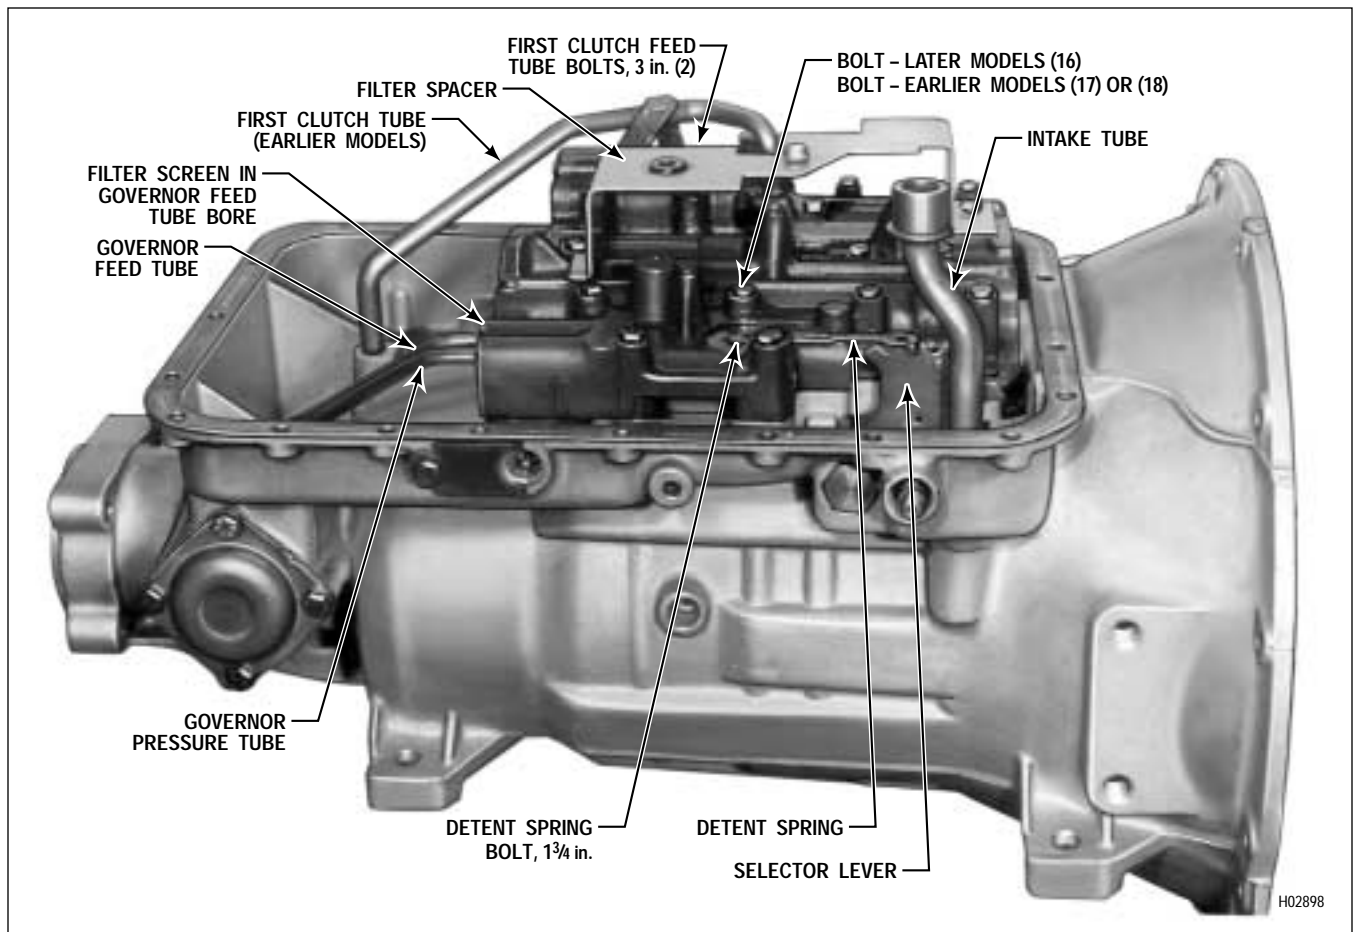
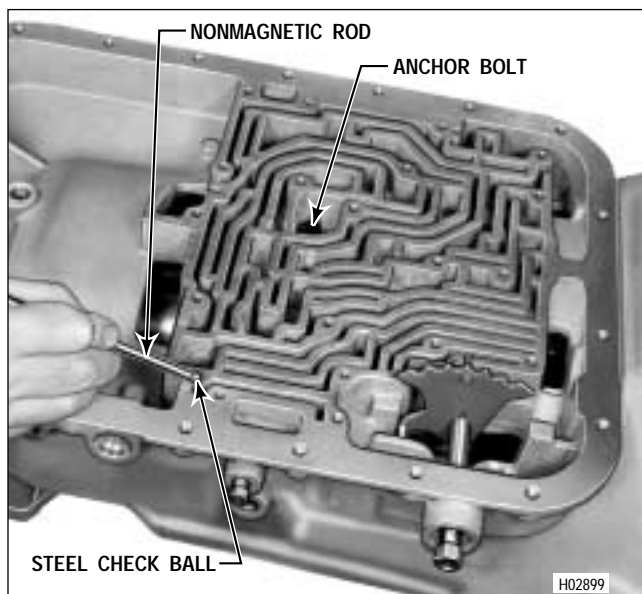

Figure 5-7. Removing Main Control Valve Body
Figure 5-8. Removing Governor Check Ball (Earlier Models)
(2) Remove the intake tube and sealring (Figure 5-7).
(1) Remove the bolt that retains the detent spring (Figure 5-7). Remove the spring.
(2) On later models, remove the two 3 inch bolts (Figure 5-7) that retain the first (reverse) clutch feed tube. Remove the tube.
(3) Remove the sixteen (seventeen or eighteen, earlier models) 1/4-20 bolts that retain the main control valve body and filter spacer (if present).
main control valve body (Figure 5-7) by lifting upward on the body and the attached feed tubes.
(5) Remove the two feed tubes (three, earlier models). Remove the governor circuit screen, located in the governor feed tube bore (Figure 5-7).
(6) Refer to Paragraph 6-6 for rebuild of the main control valve body assembly.
(7) For earlier models, apply a small amount of oil-soluble grease to the end of a **nonmagnetic** rod (1/4 inch diameter). Insert the rod (greased end first) into the valve body cavity and remove the steel check ball (Figure 5-8).
(8) Remove the center support anchor bolt and flat washer (Figure 5-8).